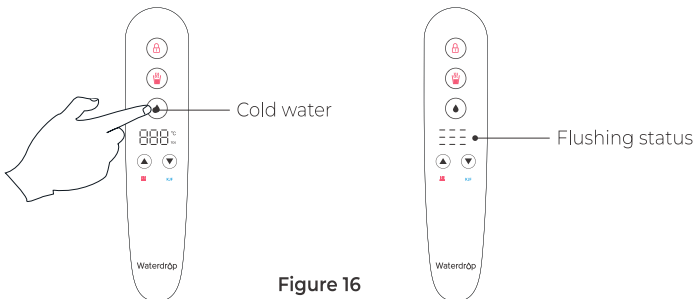

Figure 16
d. Turn on the faucet and flush for 15 minutes. Touch the key  and turn on the faucet. The system starts flushing for 15 minutes until there is no water output from the faucet. During the flushing period, the system will inject water into the heating tank. There will be no water coming out of the smart faucet at this time, and no action is needed until the flushing is completed and the system automatically goes into standby mode (Figure 16).